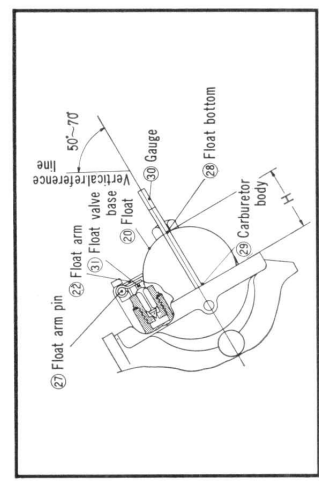

Figure 3-111. Fuel level adjustment
It is difficult to directly measure the fuel level, therefore, the fuel is determined by measuring the height (H) of the float. (Fig. 3-111, 3-112)
- (1) Position the carburetor as shown in Fig. 3.111 with the float arm pin (27) toward the top and the float (20) at the bottom and tilt the carburetor to the point where the float arm (22) is about to break contact with the float valve base. This should occur when the carburetor is tilted approximately 70° or at any point between 50° to 70°. That is, the float arm should be at a point where the base of the valve is not compressed.
- (2) In this position, the float bottom (28) is measured from the carburetor body (29) with the gauge (30) to determine the height (H). The tolerance of the float position is 1mm (0.040 in) both ways. In other words, the gauge should not press the float more than 1mm, nor should there be clearance greater than 1mm between the gauge and the float. Care should be exercised in making the measurement since the base of the valve is spring loaded and can be compressed into the valve in which case, the true closing point of the valve cannot be determined.